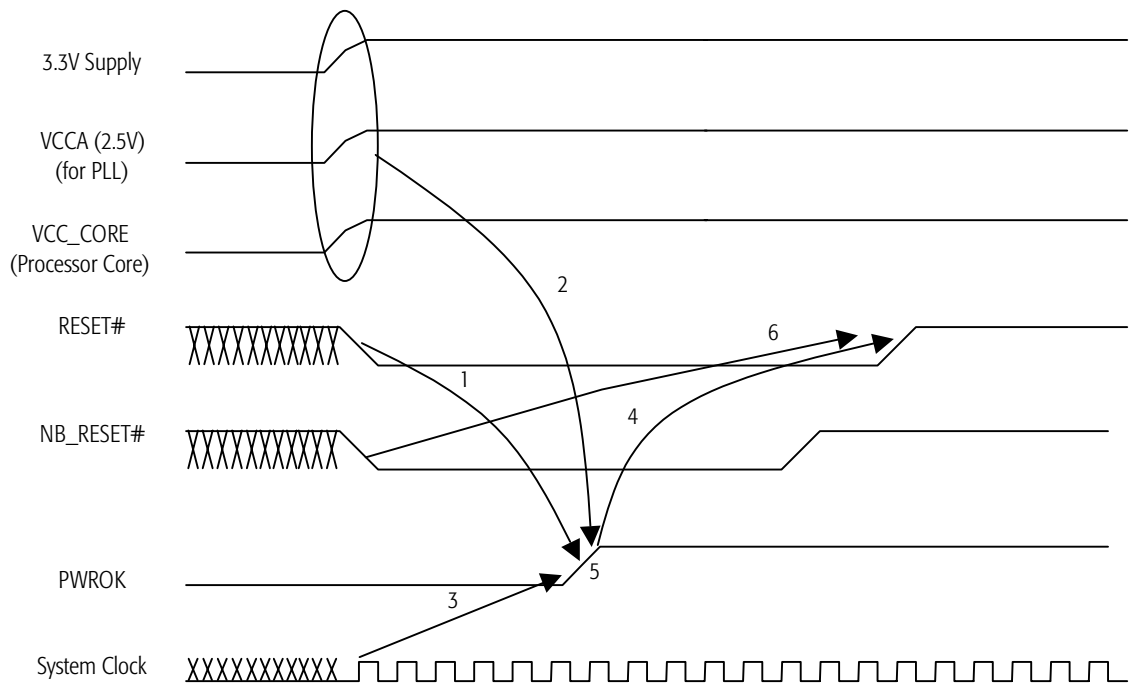

Figure 10. Signal Relationship Requirements During Power-Up Sequence
Figure 10 shows the relationship between key signals in the system during a power-up sequence. This figure details the requirements of the processor.
1. Figure 10 represents several signals generically by using names not necessarily consistent with any pin lists or schematics.
2. Requirements 1-6 in Figure 10 are described in “Power-Up Timing Requirements” on page 36.
Power-Up Timing Requirements. The following signal timing requirements correspond to numbers 1-6 in Figure 10 on page 35.